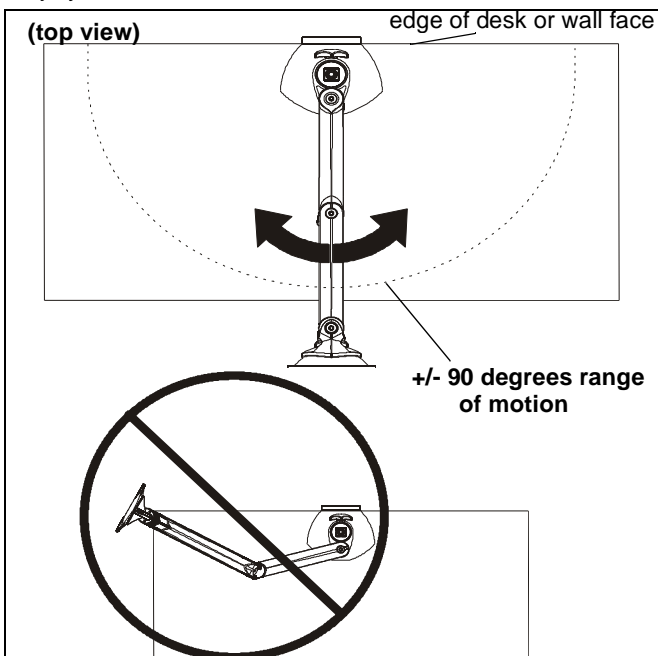

Figure 24
1. Adjust arm angle as desired up to 90 degrees in either direction. (See Figure 24)